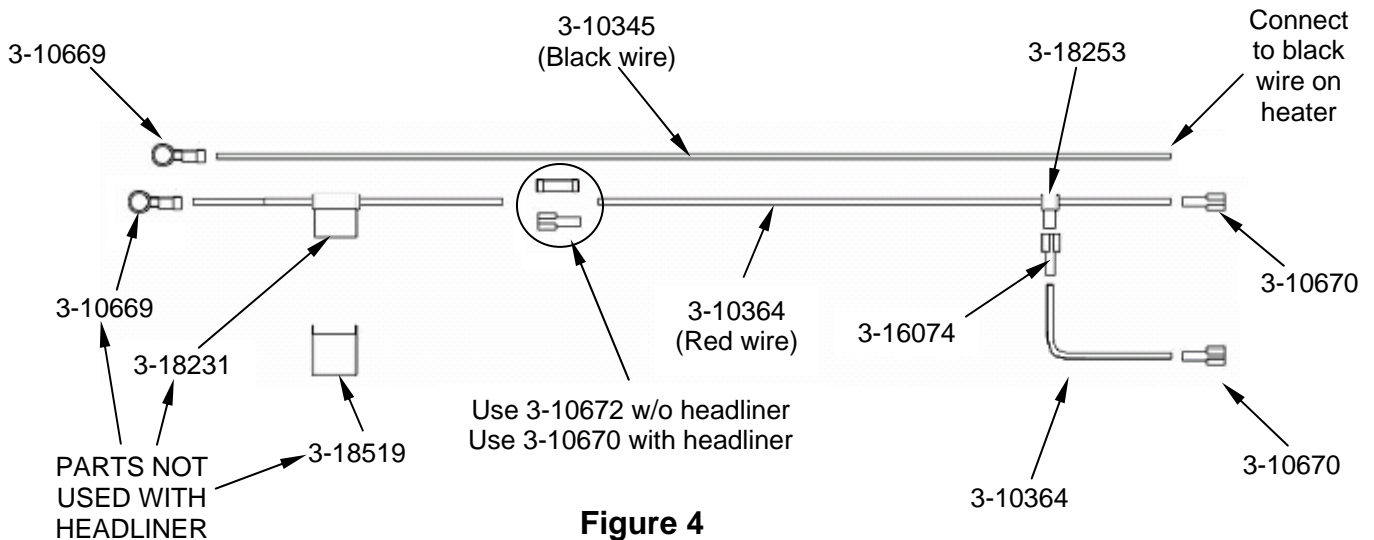

Figure 4
20. Remove (4) headliner bolts and allow headliner to tip down and rotate rearward. Allow headliner to hang from the cab side frame tubes.
21. Route the red and black wire supplied from the heater unit location up the inside front RH side frame tube to the headliner fuse block location. Crimp (1) terminal (3-10670) to each end of red the wire. Crimp (1) terminal (3-10669) to the black wire near the grounding stud in headliner. Connect the other end to the heater unit's black wire. At switch location add a 3" jumper wire to the red wire using "T" tap (3-18523) and connect to switch locations 2 & 5. See rocker switch legend and Figure 4.